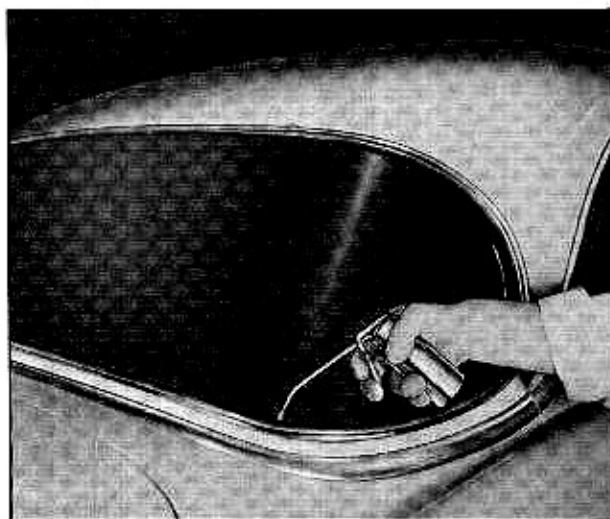

Fig. 3-72 Sealing Rear Window Rubber Channel
14. Apply a bead of weatherstrip cement between the outer lip of the rubber channel and the glass, around the perimeter of the back window, Fig. 3-72.
(64) Headlining Removal